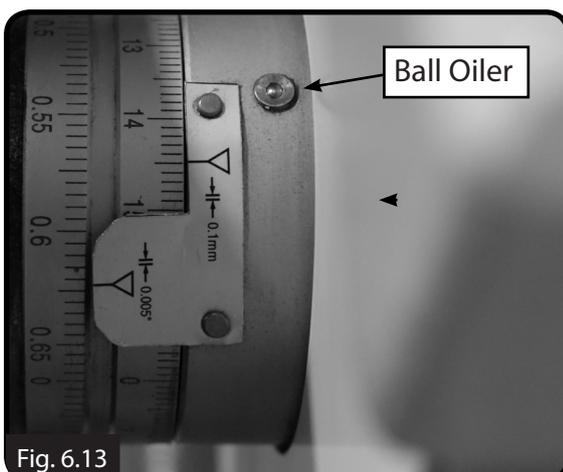

Fig. 6.13
- Carriage handwheel (Fig.6.13)